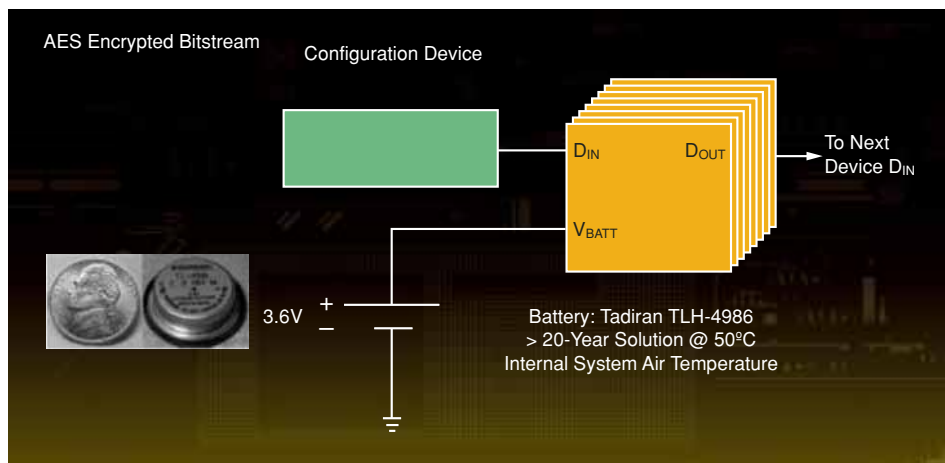

Figure 1 – Encrypted bitstream reference circuit for system-level applications
5. Encryption key storage (Figure 1) has a long life span (20+ years).